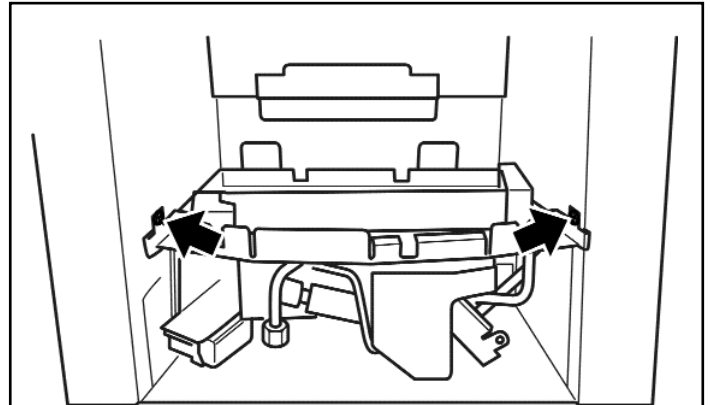

Figure 28. Burner attachment points
4. Detach the burner unit from the convection box by removing two screws (See figure 28).